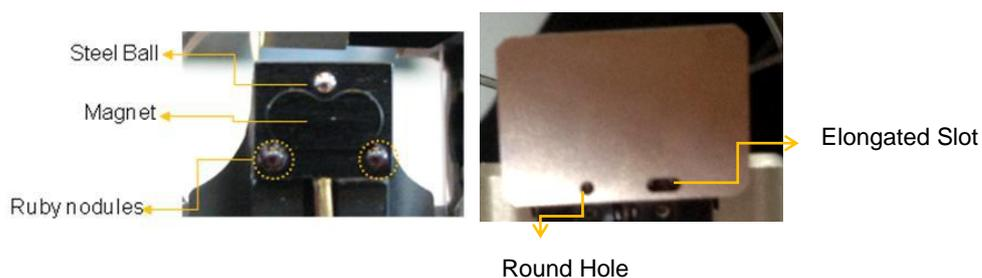

Figure 2. (Left) Standard Probehead, (Right) with the SLD detector chip carrier attached.
1. Attach the detector chip carrier on the probehead (Figure 2).